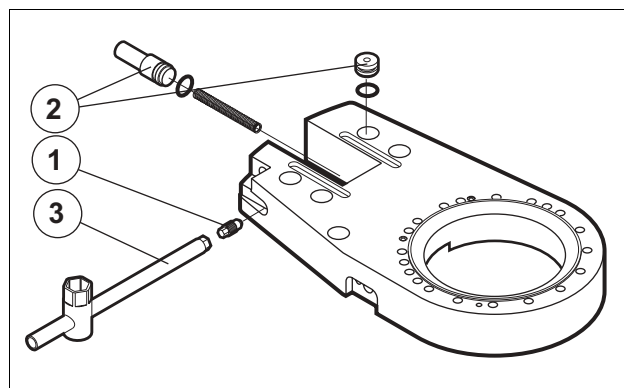

Fig. 17 Bleeding chain tensioning system
2. Tip the unit backwards if possible so that the bleeder valve (1) is as high as possible in relation to the tension pistons (2). See Fig. 17.
4. Open the bleeder valve (1) 1- 2 turns.
Use the tool P/N 0704040, (3) See Fig. 17.
6. Close the bleeder valve (1). As there is no saw chain installed, the bar holder will move to the outer position and stay there.